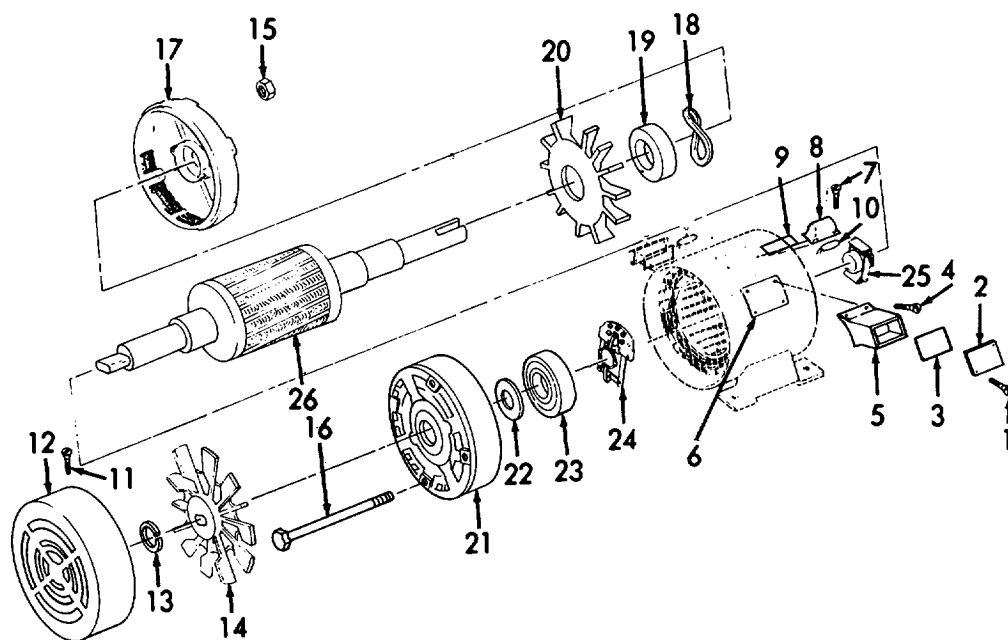

Figure 4-4. *Electric Motor, Disassembly.*
a. *Disassembly.* (Refer to Figure 4-4).